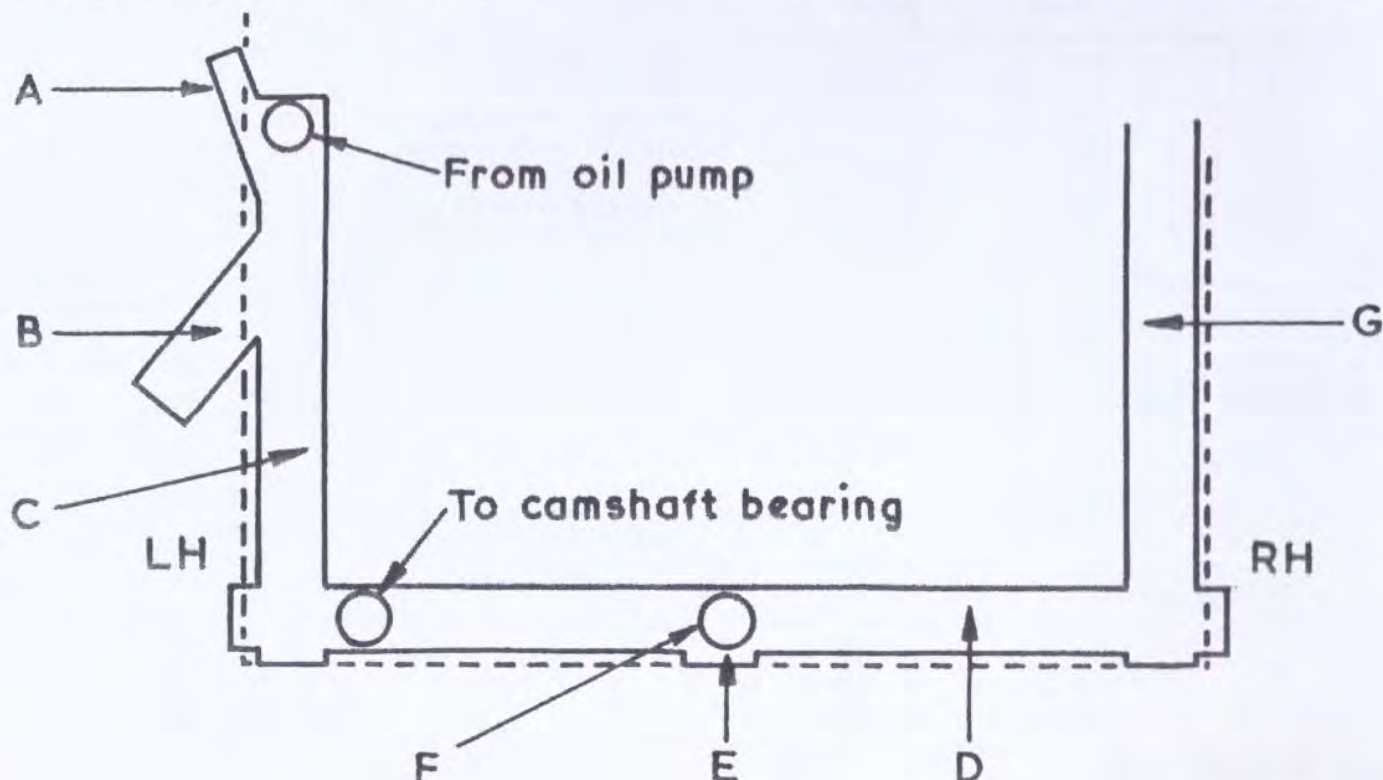

FIG. 7
The standard set-up is as follows (see Fig. 7). Oil is picked up from the sump and pumped into an oil gallery on the distributor side of the block. This gallery has three branch drillings: (A) going rearward to the bypass filter mounting, (B) towards the oil pressure gauge, and (C) forward to the front of the block where it connects at a right angle to a gallery (D) running upwards across the face of the block. This supplies the timing chain via a jet (E) and the front main bearing (F). Once again it turns through a right angle and continues to the rear of the engine (G). This gallery (G) has two drillings, feeding downwards through the main bearings to the camshaft. Oil is picked up by the crank via the main bearings and fed through drillings to the big ends. A vertical hole drilled from the rear camshaft bearing feeds the rocker shaft via a passageway cast into the cylinder